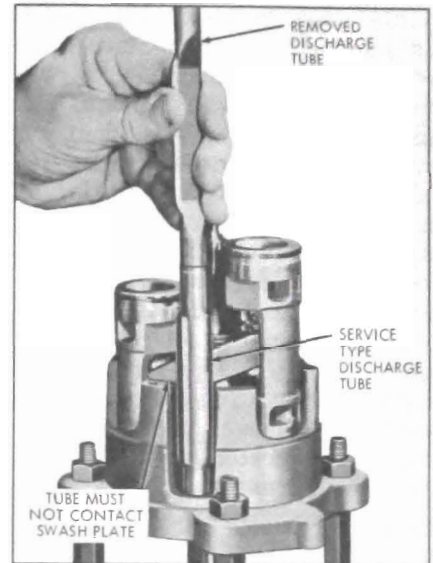

Figure 11-136—Installing Service Type Discharge Tube
4. Assemble one end of service discharge crossover tube into hole in front cylinder. See Figure 11-136.